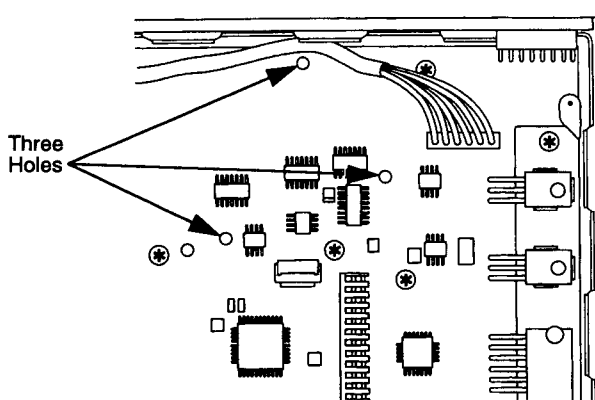

Figure 1-12.
8. Locate the three holes on the logic board, where the Advantage Board is to be attached, using Figure 1-12 as a reference.